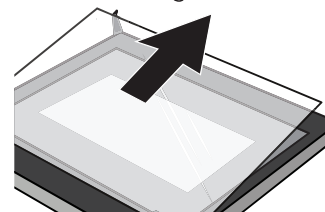

Figure 5
5. Push the glass into the position indicated by the arrow in Figure 5. Gently pull the glass out of the socket.